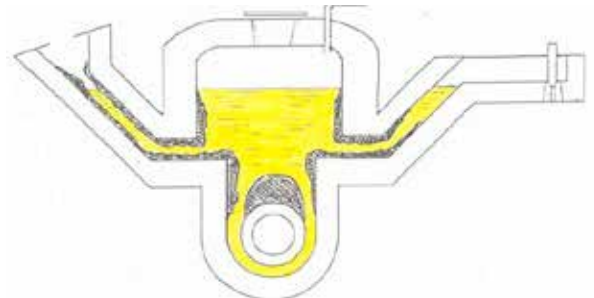

Figure 3: Traditional throated pressure pour vessel showing slag build-up in (black cross hatched)
**Pressure Pour Furnaces:** Pressure pour furnaces are sealed holding furnaces normally blanketed with a nitrogen atmosphere and have an induction coil attached to the bottom. Pressure pour furnaces are designed to hold liquid metal at a constant temperature for short or extended periods of time such as over a weekend or longer. They are widely used in the processing of magnesium treated ductile irons. When the furnace is pressurized, a stream of molten metal exits the vessel for mold filling. These furnaces are not designed to melt metal. Circulation of liquid metal through the inductor throat or loop provides the heating of liquid metal to keep a constant temperature in the furnace. As in a vertical channel furnace, slag often builds up in the inductor loop and throat areas (Figures 3). Slag buildup also occurs along the side-walls, effectively reducing the capacity of the vessel. Additional buildup in the fill siphon and pour siphon areas restricts metal flow rates into and out of the vessel.